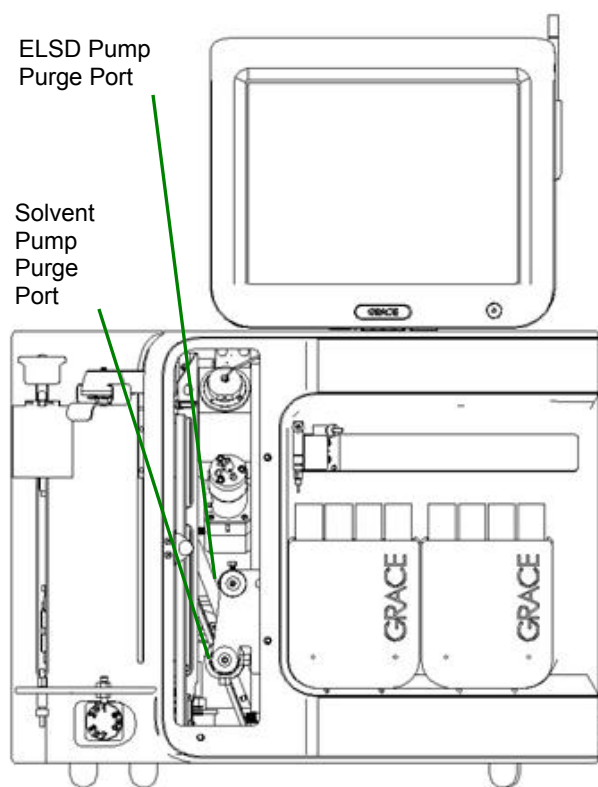

Figure 4-6: Front View of Reveleris™ Flash Chromatography System
- Attach a syringe to the prime port (the bottom port) on the front panel of the detector behind the door (Figure 4-6).
The flash chromatography column to be used is placed in the column area (Figure 4-6). As you place the column into the instrument, ensure that it is positioned so that the RFID sensor detects the column size and the size is correctly indicated in the *Column* field of the *Setup* window. The arm on the top of the column is fitted by gravity and should be fit snugly on the column.
Liquid samples are introduced into the system via a syringe that is placed in the syringe arm (Figure 4-6). The arm will be moved to the top of the syringe when you start the separation (see Section 4.8). The arm contains a switch that detects if a solid sample or a liquid sample is to be separated.
Place the solid sample accessory in the sample area (Figure 4-6). The arm will be moved to the top of the solid sample assembly when you start the separation (see Section 4.8). The arm contains a switch that detects if a solid sample or a liquid sample is to be separated.